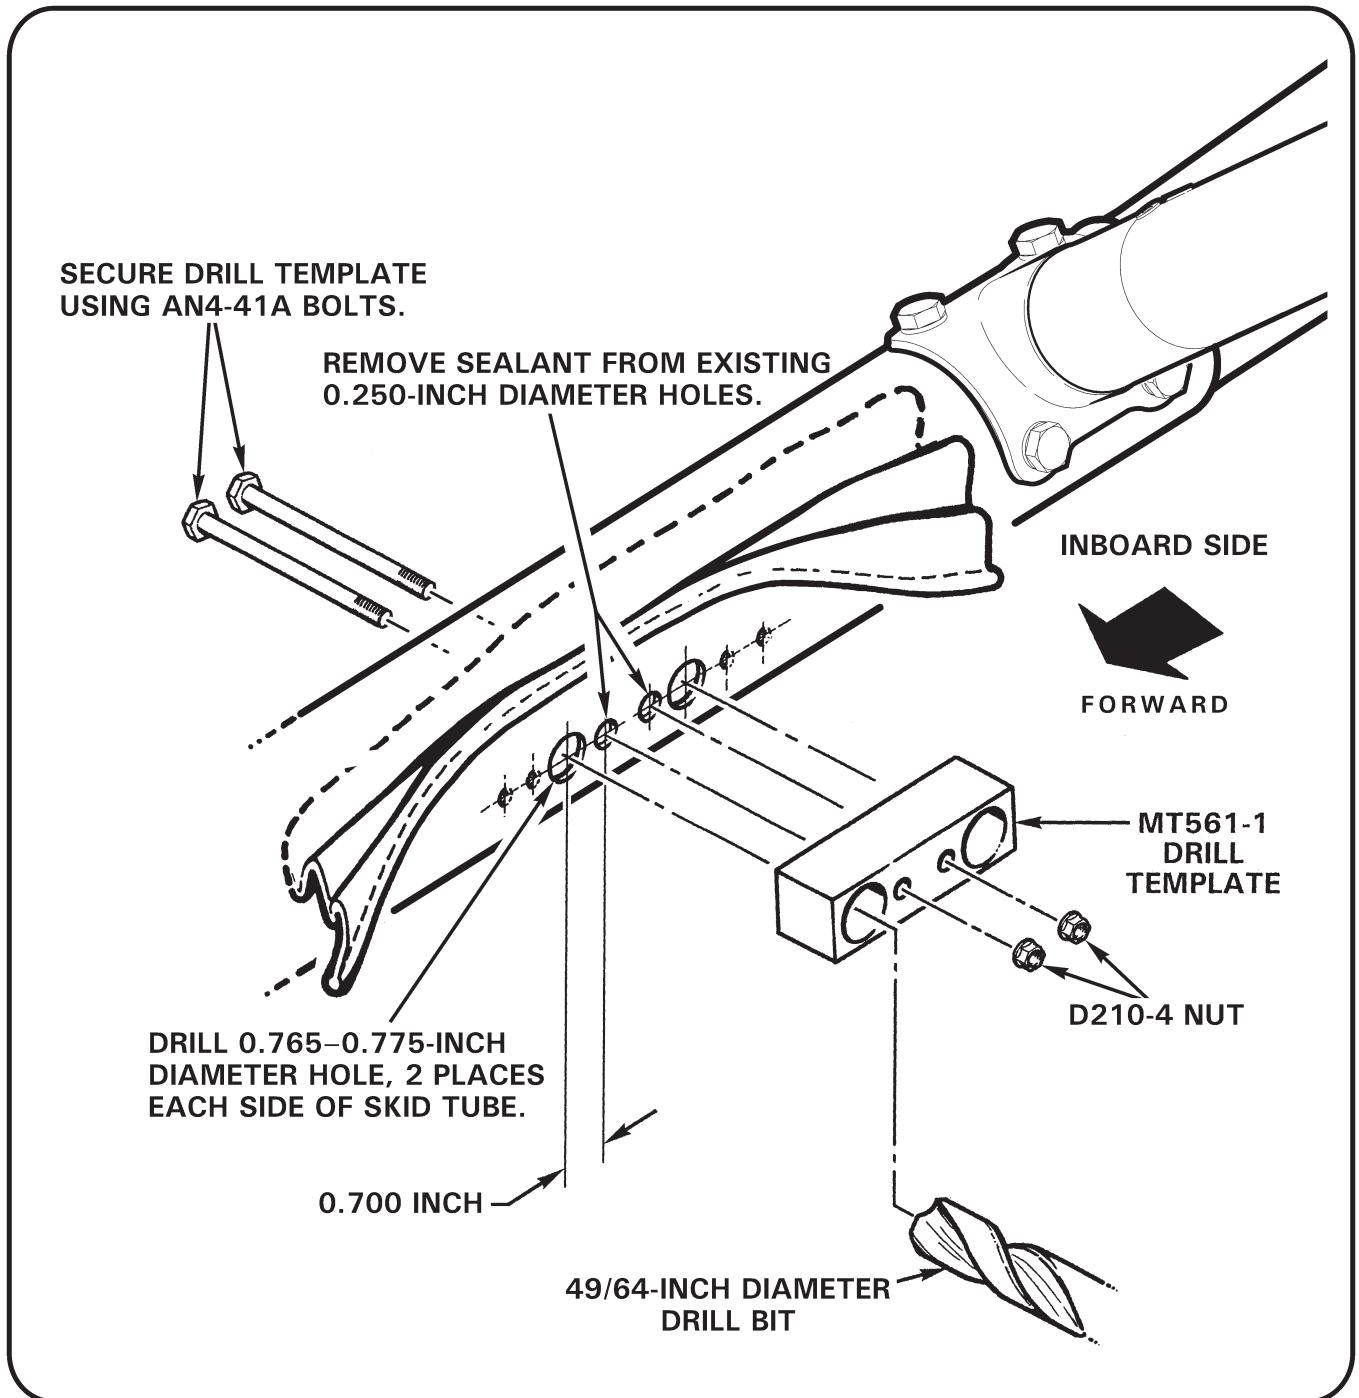

FIGURE 3
5. Refer to Figure 3. Remove sealant from existing 0.250-inch diameter holes on each side of skid tube. Secure MT561-1 drill template using (2) AN4-41A bolts and (2) D210-4 nuts on **inboard** side of skid tube as shown. Torque to 35 in.-lb maximum.